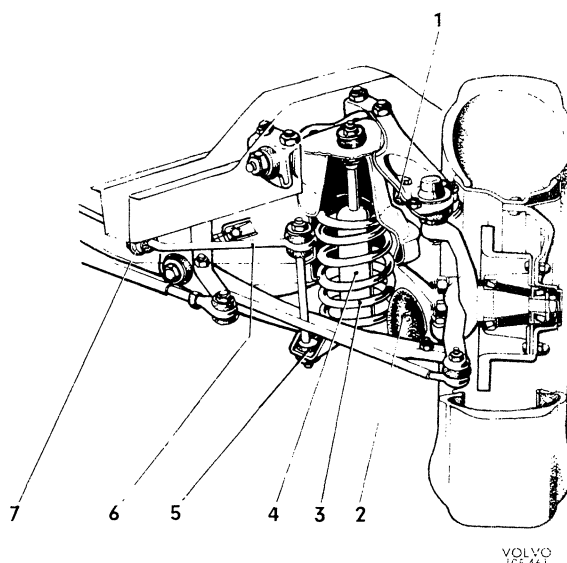

Fig. 7-2. Front spring and shock absorber
The 1800 is fitted with coil springs at front and rear. The front wheel has individual suspension. The upper ends of the front springs (3 Fig. 7-2) are seated in housings formed in the front axle member, and at the bottom are seated in the lower wishbones. The lower wishbones are also provided with rubber buffers (2), for absorbing any impacts arising from loading on the spring. The upper wish-
The stabilizer (6, Fig. 7-2) which is attached to both the lower wishbones and the frame, increases the stability of the vehicle.